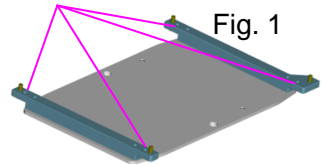

Fig. 1
- 2) The 4 outboard screw holes on the link board are used for SE-601 series, SE-1, SE-100, SE-300 series, and SE-3 machines, and the 4 inboard holes for SE-12 series. See Fig. 1.